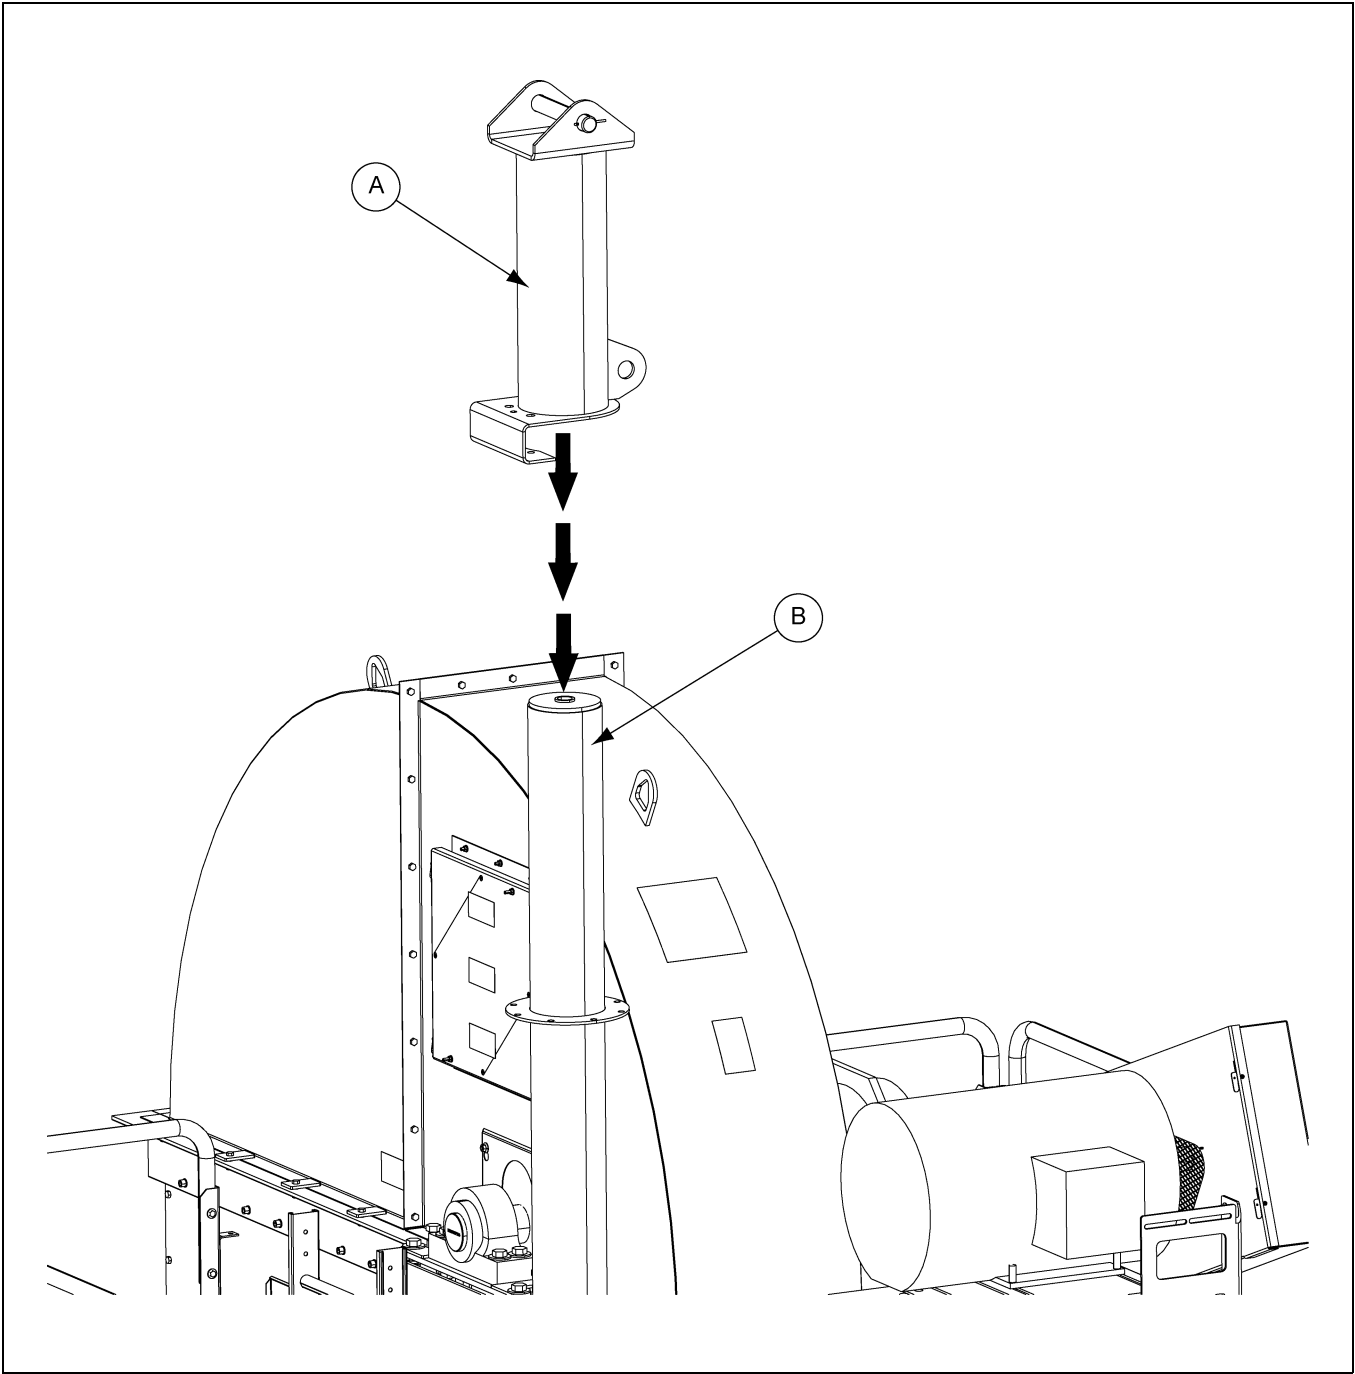

Figure 3E
Slide jib crane turret (A) over mounting column (B) as shown in Figure 3E.